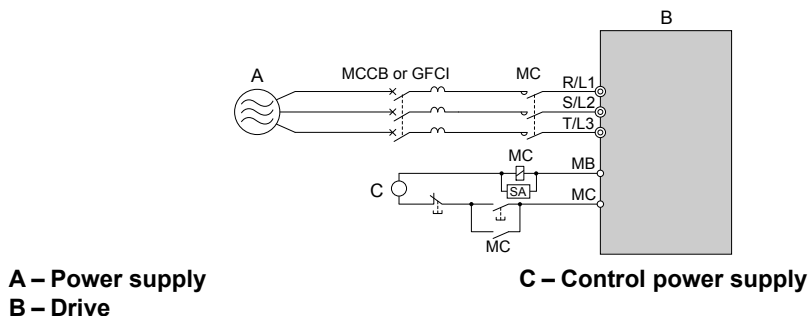

Figure 6.9 Power Supply Interrupt Wiring (Example)
- If several drives are connected to one MCCB or GFCI that is shared with other equipment, use a sequence that shuts the power OFF when errors are output by using magnetic contactor (MC) as shown in Figure 6.9.